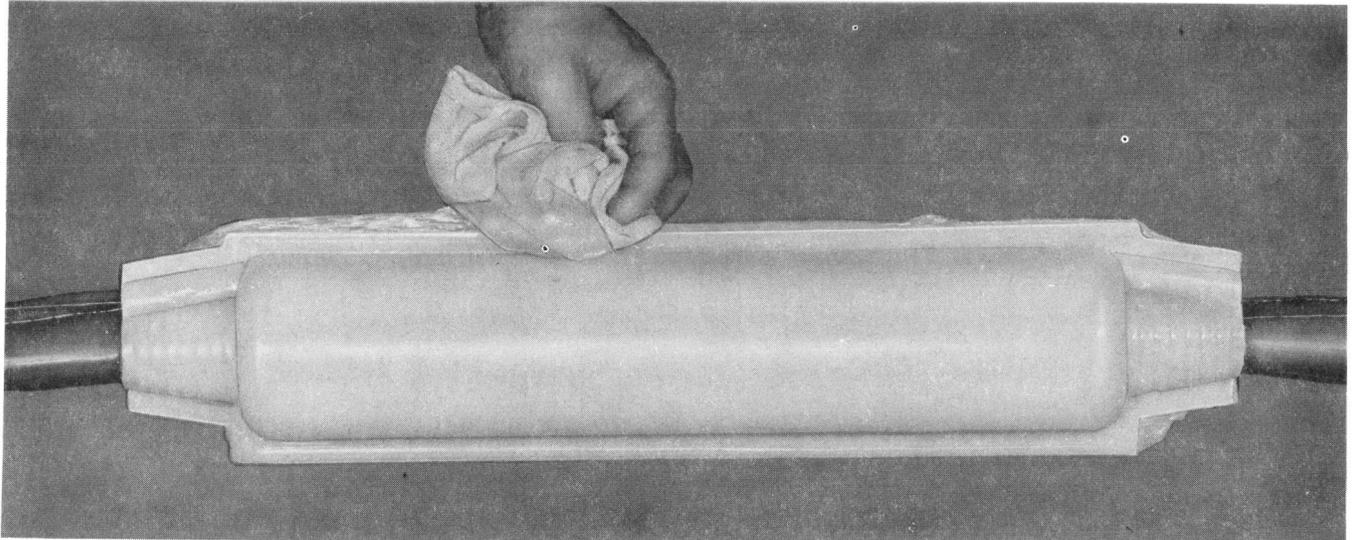
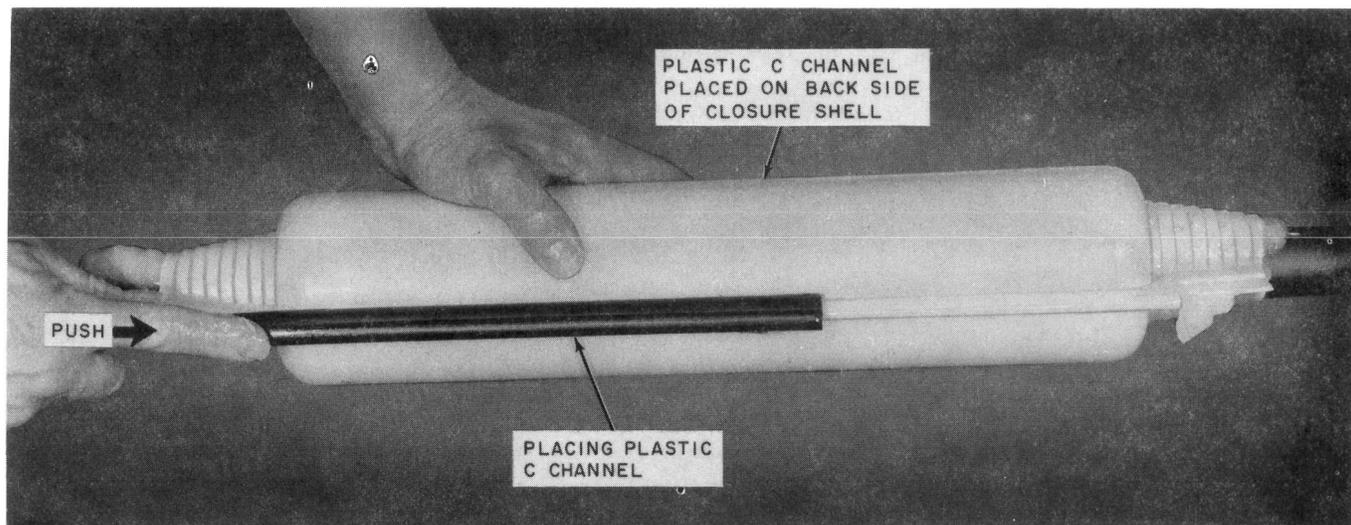

Fig. 15—Removing Compound
Fig. 16—Placing Plastic C Channel
3.17 Remove excessive amount of compound, if desired, (Fig. 15) then place plastic C channels lengthwise on each side of shell (Fig. 16).